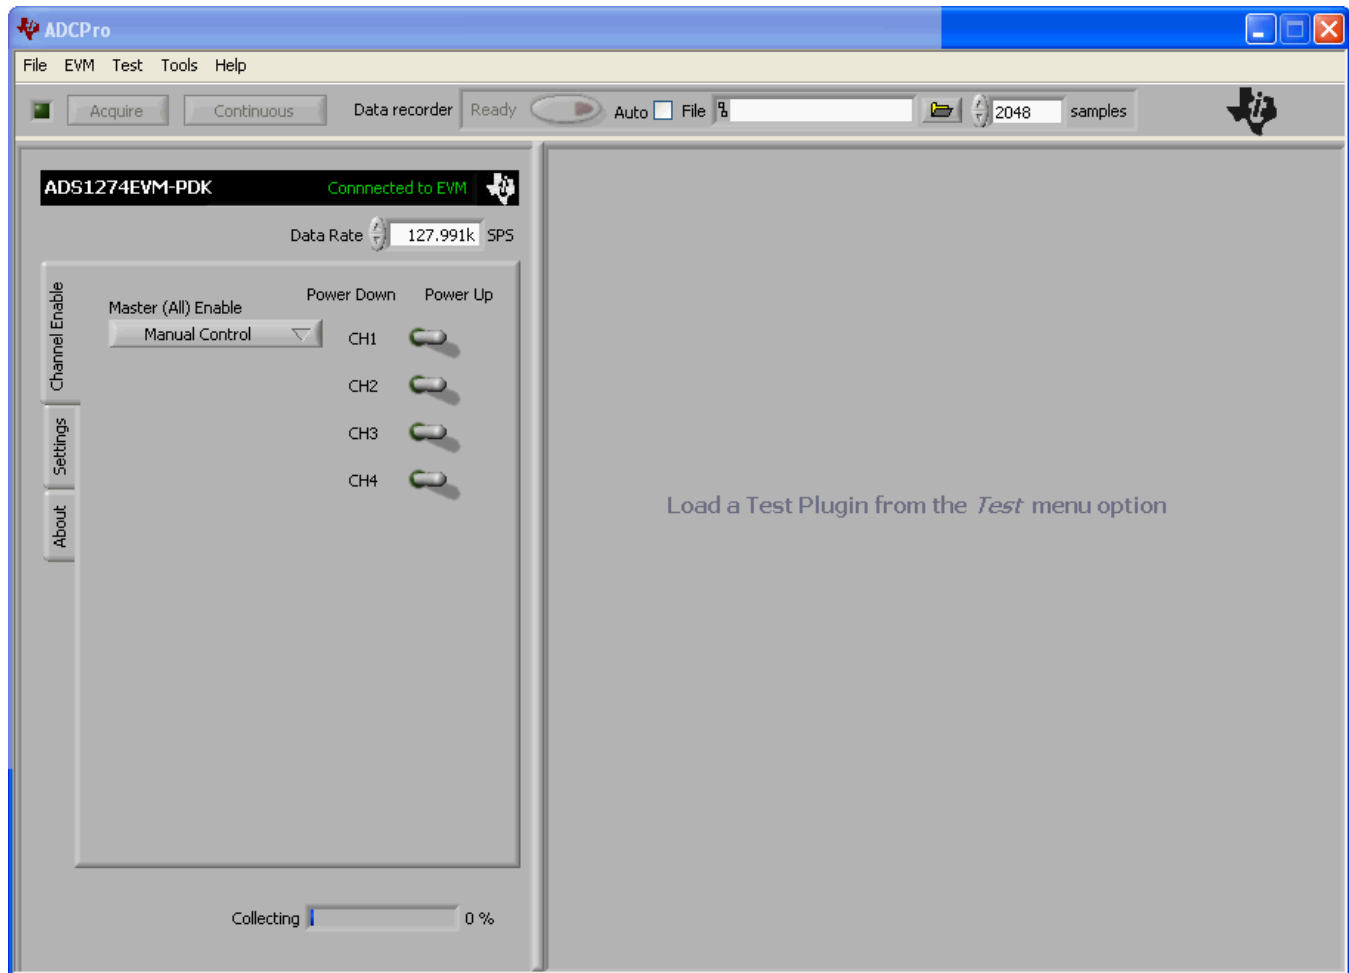

Figure 19. ADS1274EVM-PDK Plug-In Display Window
- Step 2. Select ADS1274EVM from the EVM drop-down menu. The ADS1274EVM-PDK plug-in appears in the left pane, as shown in Figure 19.
The ADS1274EVM-PDK plug-in for ADCPro provides complete control over all settings of the ADS1274. It consists of a tabbed interface (see Figure 19), with different functions available on different tabs. These controls are described in this section.